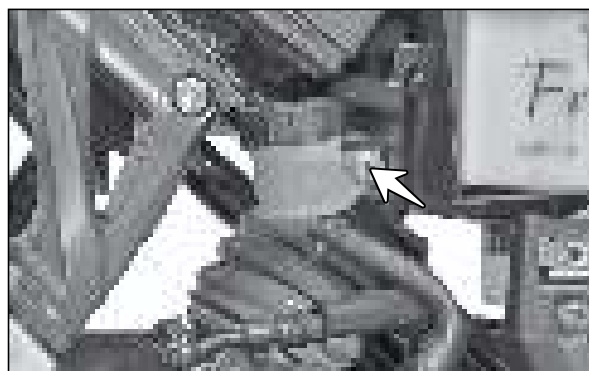

Fig. 6.144
- Remove the CRR pan head screw from the reservoir mounting and take out the reservoir. (Fig. 6.144)